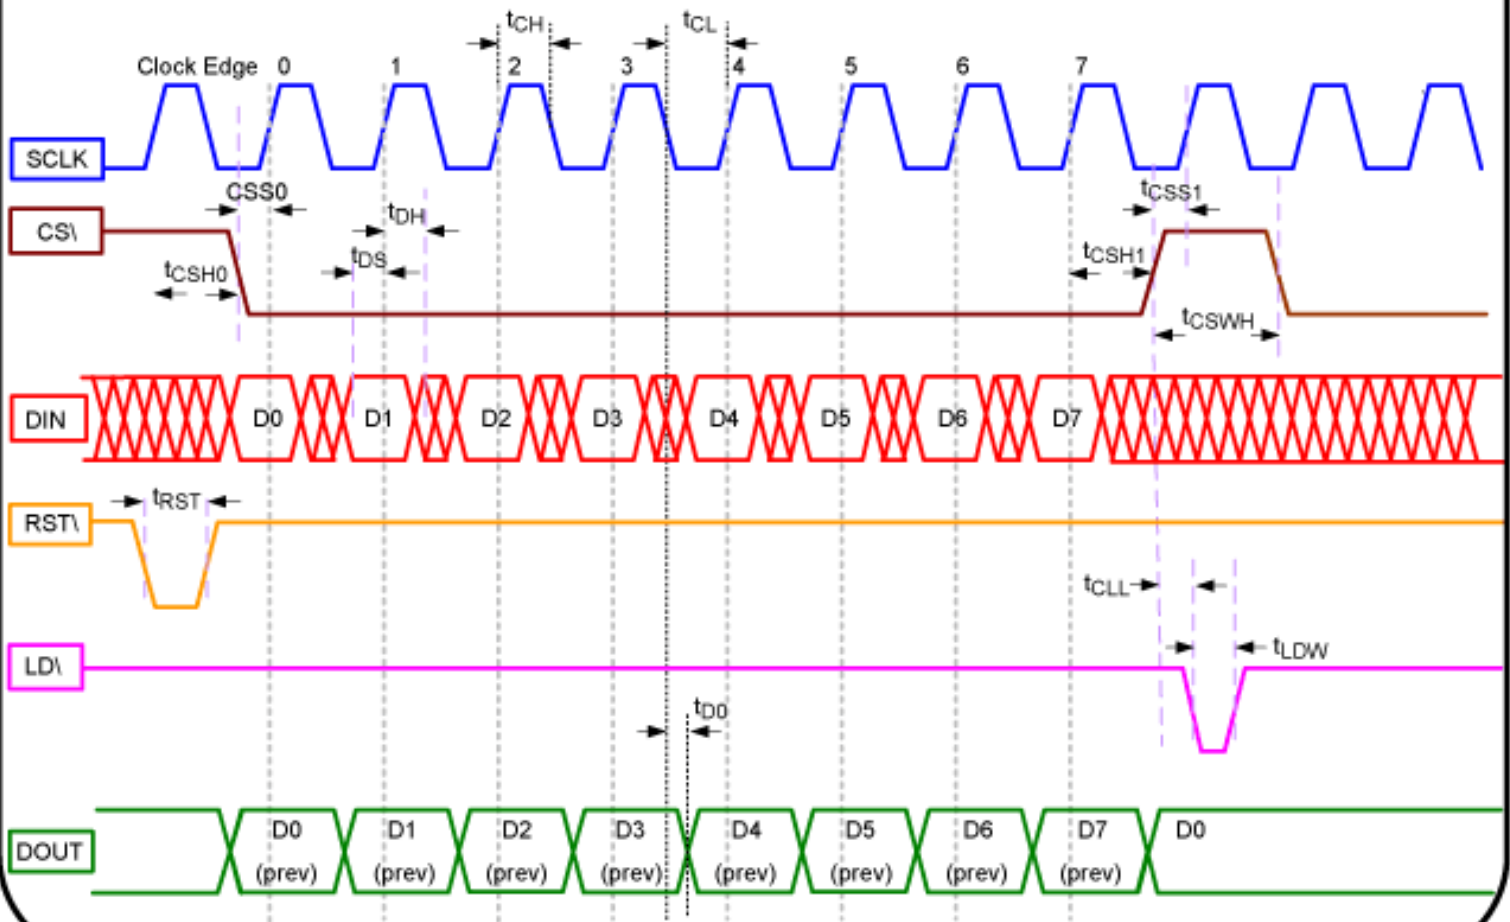

Figure 3. Detailed timing diagram of an 8-bit-word SPI example.
- Figure 3 shows the detailed timing of all the serial interface inputs and outputs.
For the SPI interface to work correctly, certain timing specifications must be met. These specifications are listed in the device data sheet. **Table 1** defines these specifications with reference to Figure 3, and shows some typical values for reference.